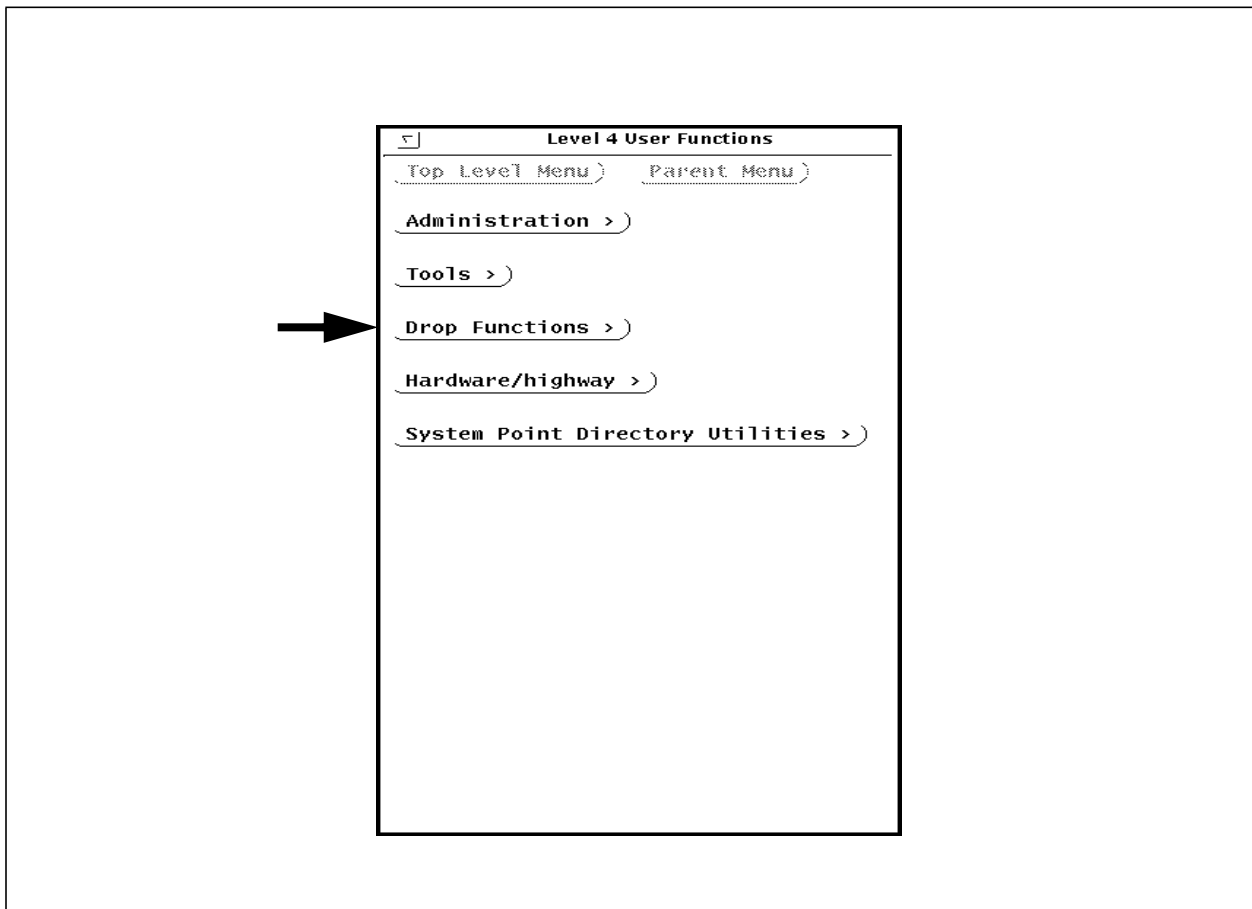

Figure 5-4. Level 4 User Functions Window
2. Select **Drop Functions** from the top level menu (see Figure 5-4).